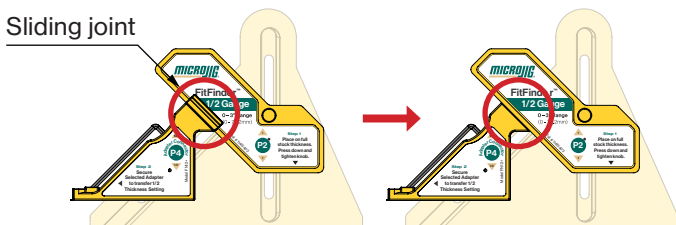

Fig 5c - Put P4 sliding joint under P2.
- E.3.** Insert P4 in place of P3 ensuring that the sliding joint of P4 is under the 45-degree edge of P2 [Fig 5c].